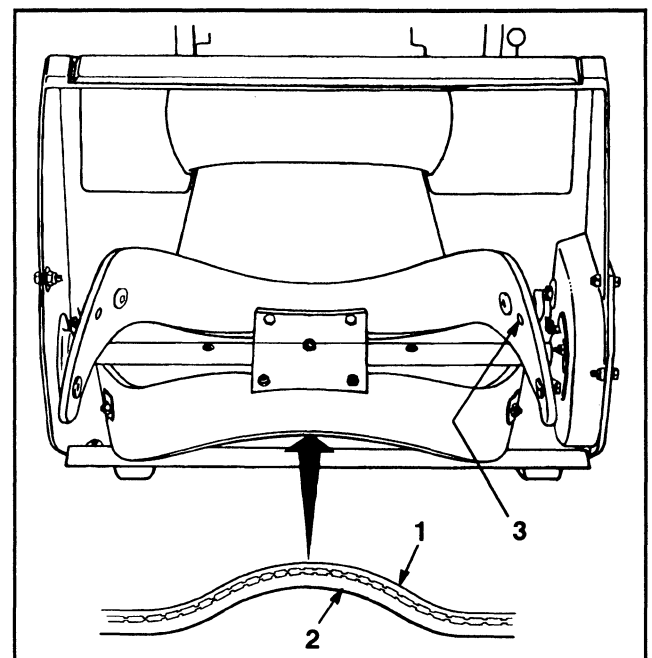

Figure 20
1. The rotor blades are made of laminated rubber. Examine the edge of a blade to see the difference in layer thicknesses (Fig. 20). (Some blades have a part number on the thick side of the blade.)